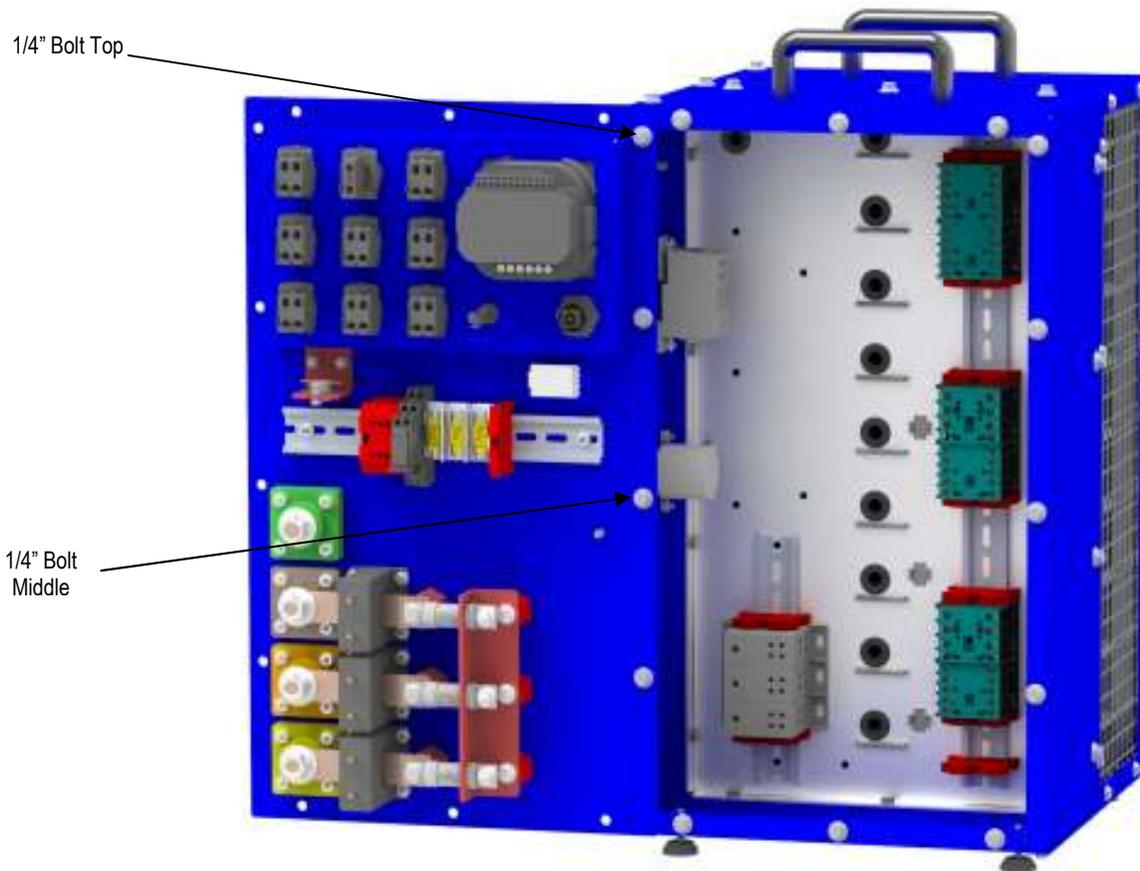

Figure 10
4. Rotate the switch panel open away from the cable service loops as shown in Figure 10.